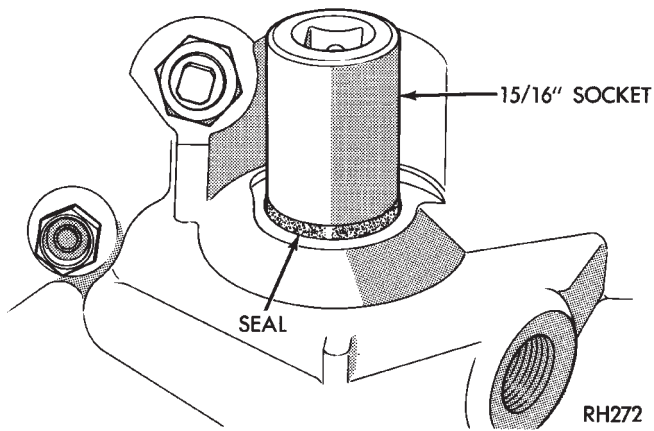

Fig. 171 Installing Manual Lever Shaft Seal
(57) Install magnet in oil pan. Magnet goes on small protrusion at corner of pan.
(58) Position new oil pan gasket on case and install oil pan. Tighten pan bolts to 17 N•m (13 ft. lbs.).
(59) Install new valve body manual shaft seal in case (Fig. 171). Lubricate seal lip and manual shaft with petroleum jelly. Start seal over shaft and into case. Seat seal with 15/16 inch, deep well socket.
(60) Install throttle valve and shift selector levers on valve body manual lever shaft.